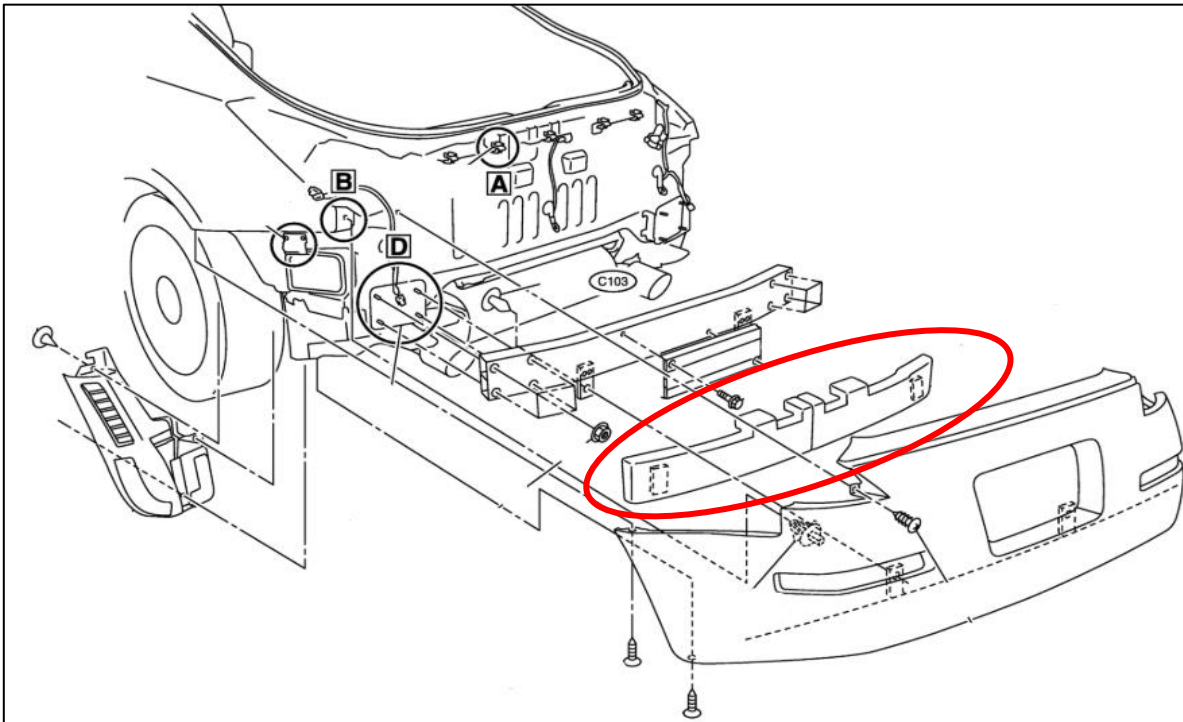

Figure 5
12. Remove and discard the Foam Crash Support. *Figure 5.*